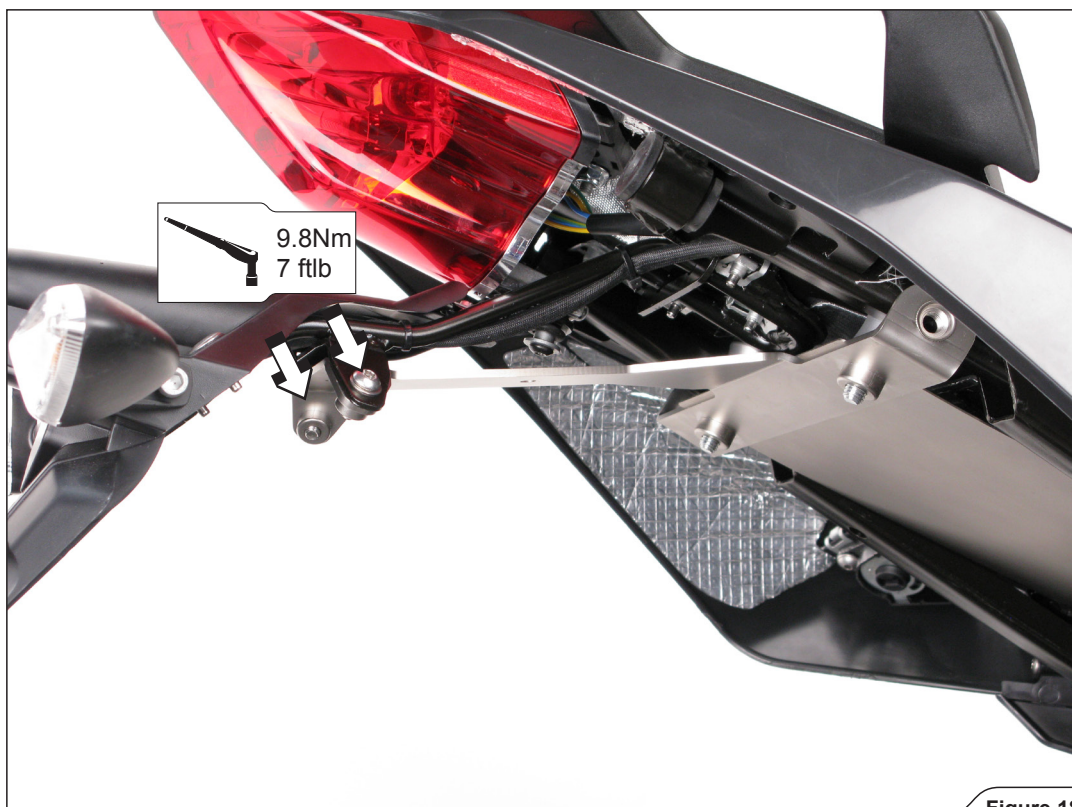

Figure 18
6. Install the Akrapovič muffler bracket (check Figures 14, 15 for correct assembly) onto the motorcycle (**Figure 18**).